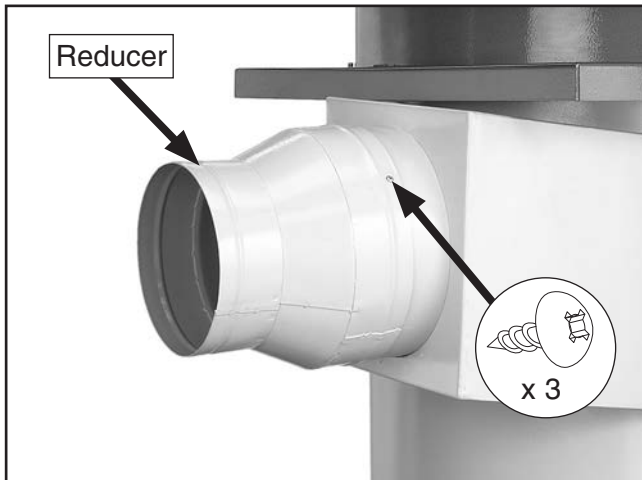

Figure 36. Reducer installed.
32. Slide the reducer over the inlet port on the barrel (**Figure 36**), line up the mounting holes, and secure it in place with the (3) M4 x 12 sheet metal screws.